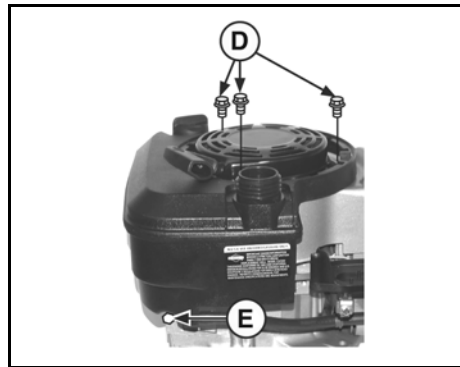

Figure 7
4. Remove screws (D, Figure 7) and screw and spacer (E), then remove tank from engine.